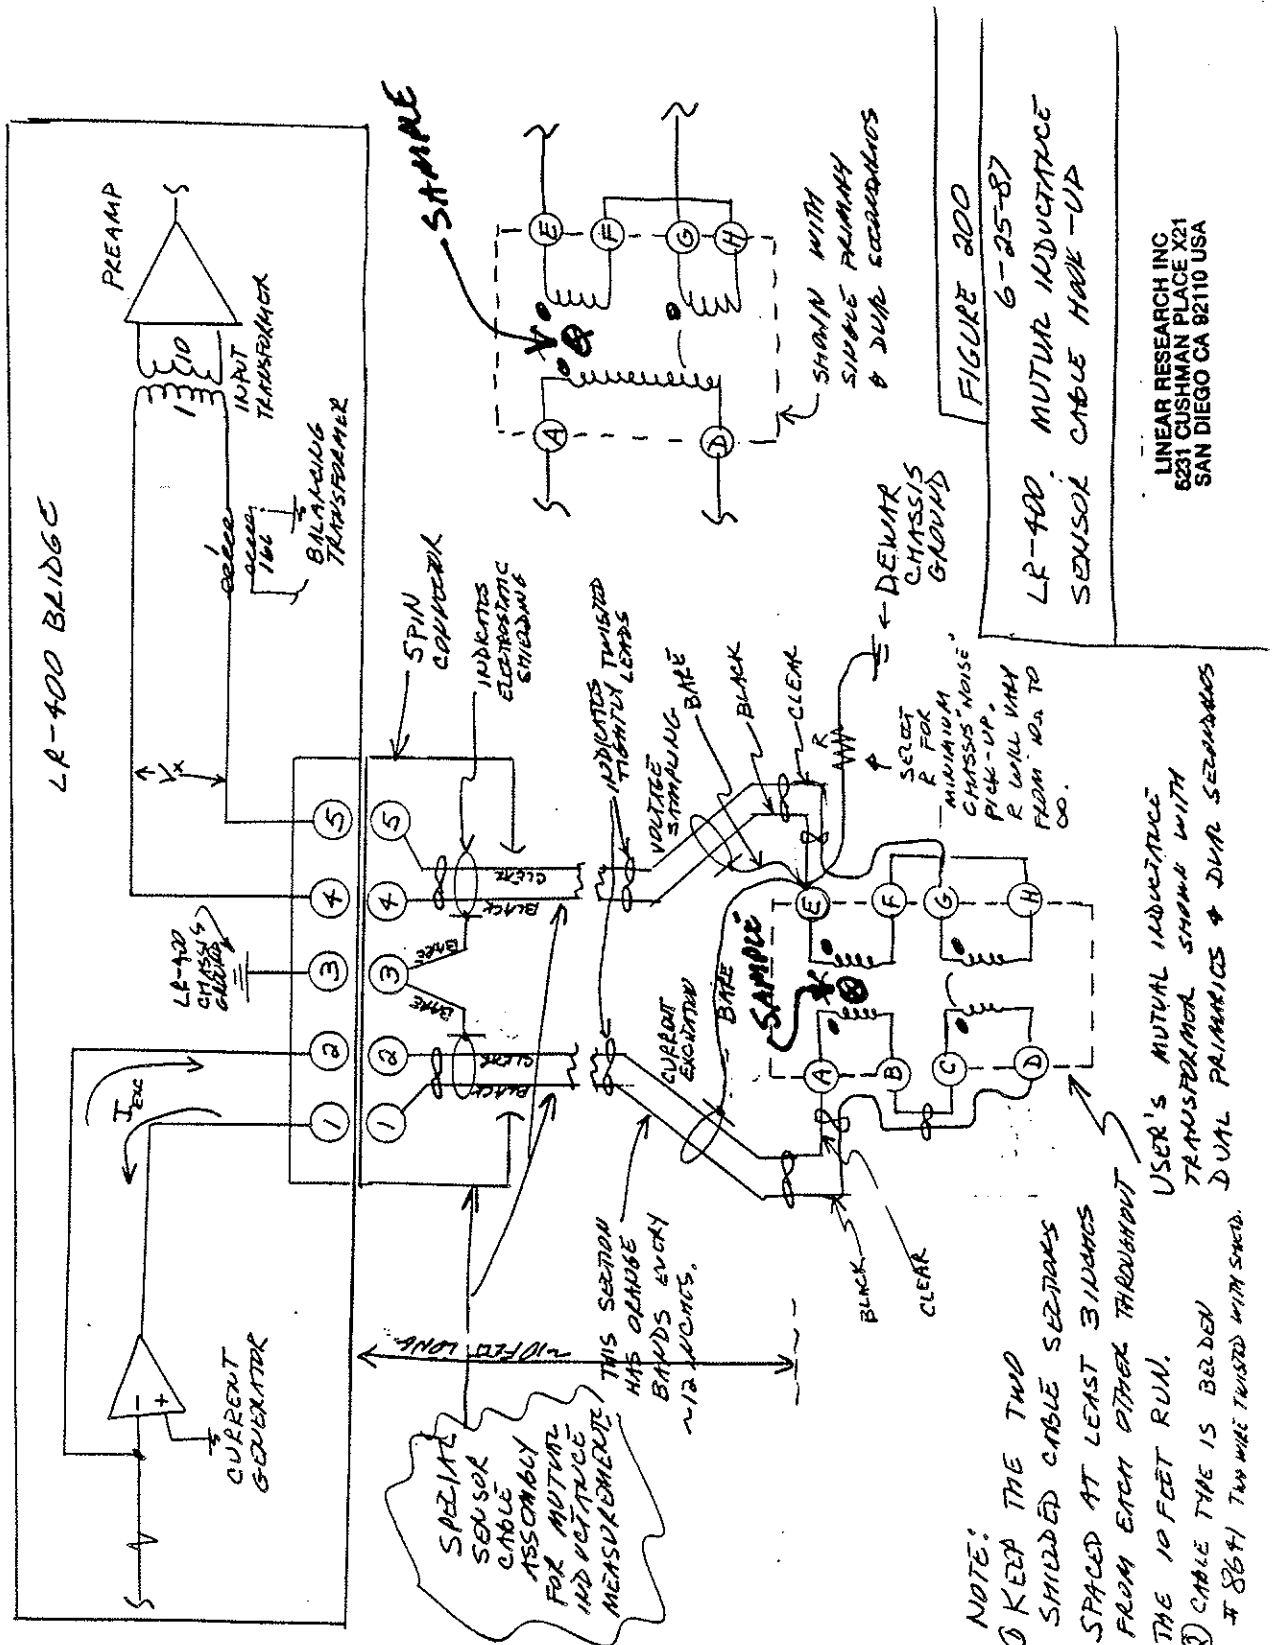

FIGURE 200
The LR-400 is connected to the mutual inductance transformer as shown in figure 200. The figure shows separated current excitation and voltage sampling leads. Supplied for this measurement is our special "split" cable where the current excitation leads are separated from the voltage balancing leads by approximately 2 to 3 centimeters so there is no induced voltage in the voltage sampling cable due to the magnetic field set up by the current in the current excitation leads.
Figure 200 shows the polarity with regard to the primary of the transformers and with regard to the secondary of these transformers. Shown is the case of two transformers with individual primaries and the case of a single transformer with a single primary and dual secondaries. In both cases the outputs of the secondaries are connected so that the voltages subtract, or buck each other, to give a null output voltage.
In figures 1 through 4: S1 = secondary number one, P1 = primary number one, etc. All have electric polarities as shown in figure 200. (X) = superconducting sample to be measured.